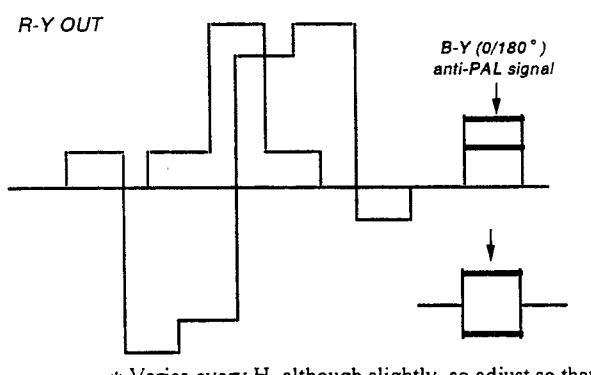

Fig. 21
- 4) Adjust [PHASE PAL NOR] so that the B-Y anti-PAL signal waveform is 0. (Fig. 21)